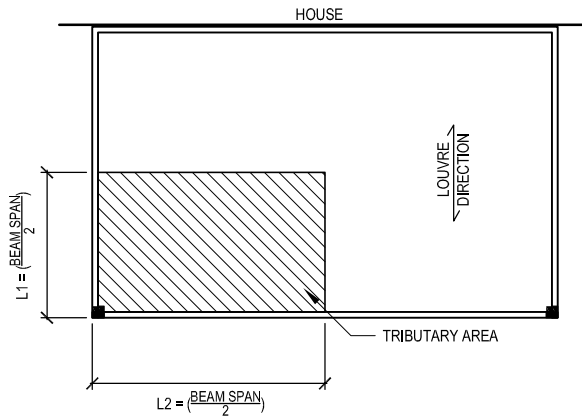

FIGURE 7
TYPICAL DETAIL | SIMPLY SUPPORTED BEAM (FIGURE 6) AND CANTILEVERED BEAM (FIGURE 7)
2. WHERE A POST SUPPORTS A CANTILEVER, CONSIDER FOR THE FULL CANTILEVER LENGTH (SEE FIG.7)